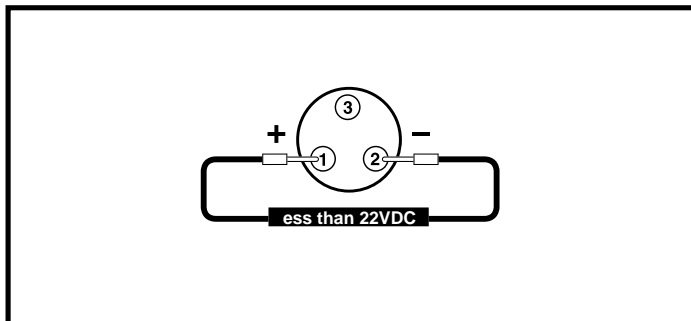

Figure 15. Connector 1a
1. Measure voltage across pin 1 (B+) and pin 2 (B-) on the off-board charger socket (connector 1a). See figure 15.
- *If your multimeter indicates more than 22VDC*, then replace the power module (6) and retest the system.